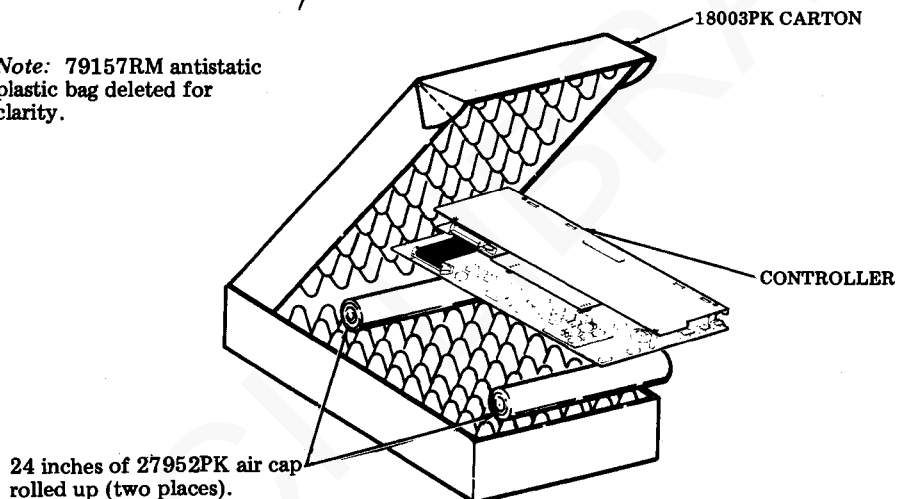

Fig. 65
- Step 3. Place the integrated controller into the carton on top of the foam, approximately centrally located. (See Fig. 65.)